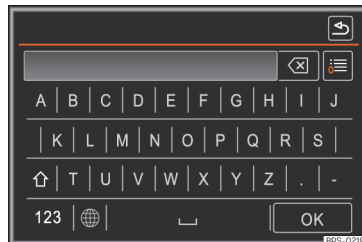

Fig. 226 Search window. »
- Enter the name of the contact you are looking for in the window »» **Fig. 226**. While the characters are being entered, a contact is displayed in the input field.